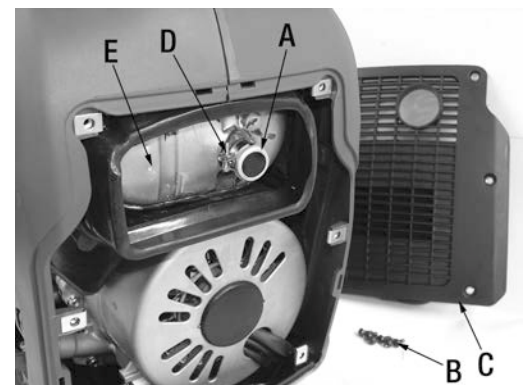

Figure 11
An uncleaned muffler spark arrester screen will produce louder noise levels and it will affect the engine running. If using this generator in dusty and dirty conditions, the muffler spark arrester screen (A) Fig.11 must be cleaned to prevent clogging of the exhaust fumes. To clean muffler spark arrester screen;
- 2) Undo the 6 pan head screws (B) Fig.11 and remove the muffler cover (C).
- 3) Undo the pan head screw (D) which secures the muffler spark arrester screen (A) to the muffler (E) and remove the spark arrester screen.